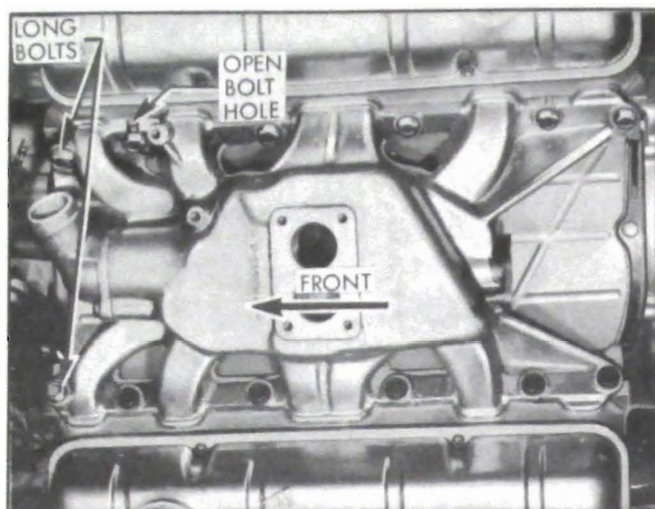

Figure 2-27—Intake Manifold Installation
5. Check to be sure the manifold and gasket clamp are properly positioned. Start all the bolts into the cylinder head. The two longer bolts are installed in the forward location on each side. See Figure 2-27.